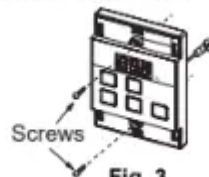

Fig. 3
6. Fix the water controller to the wall using the appropriate fixings (Fig. 3).
STEP 1: For the water controller in the KITCHEN ONLY, press and hold the 'Priority Transfer' and 'On/Off' buttons simultaneously (Fig. 3) until a 'beep' is heard approximately 5 seconds).